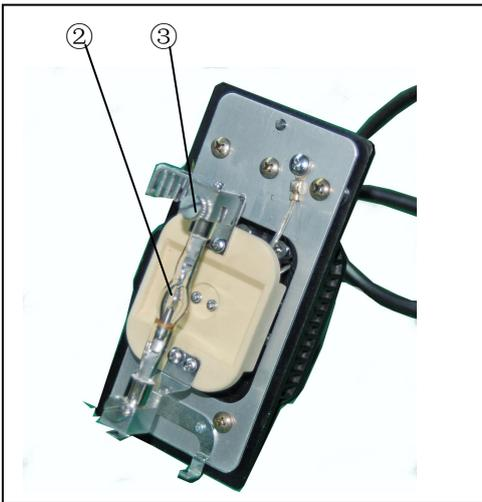

Fig 11
2.2.7 Mounting the Mercury lamp (Fig10, Fig 11)